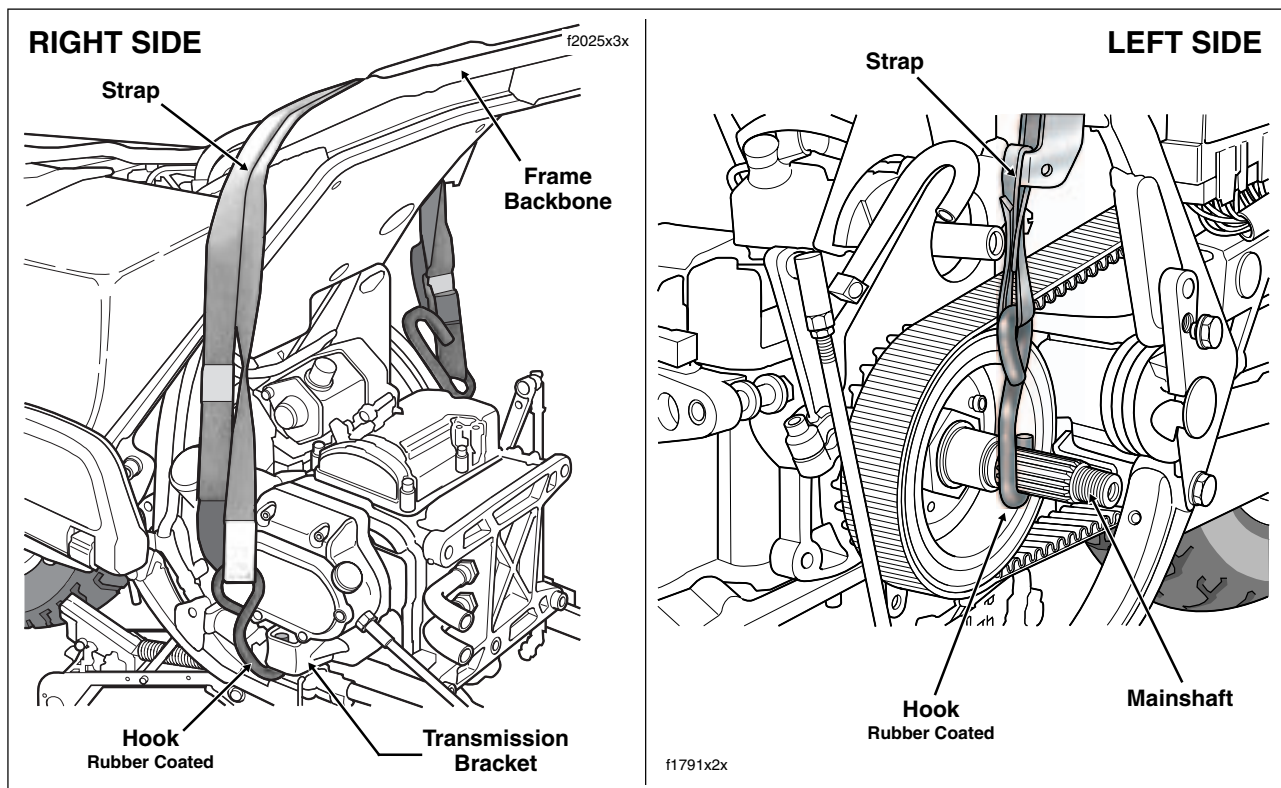

Figure 3-15. Secure Transmission Using Transmission Exhaust Bracket and Mainshaft
- a. Use a tie down strap to hold the transmission. Lay strap over frame backbone placing one rubber coated hook through the transmission exhaust bracket on the right side of the vehicle and the other around the mainshaft on the left. Using buckle, tighten strap until taut. See Figure 3-15.